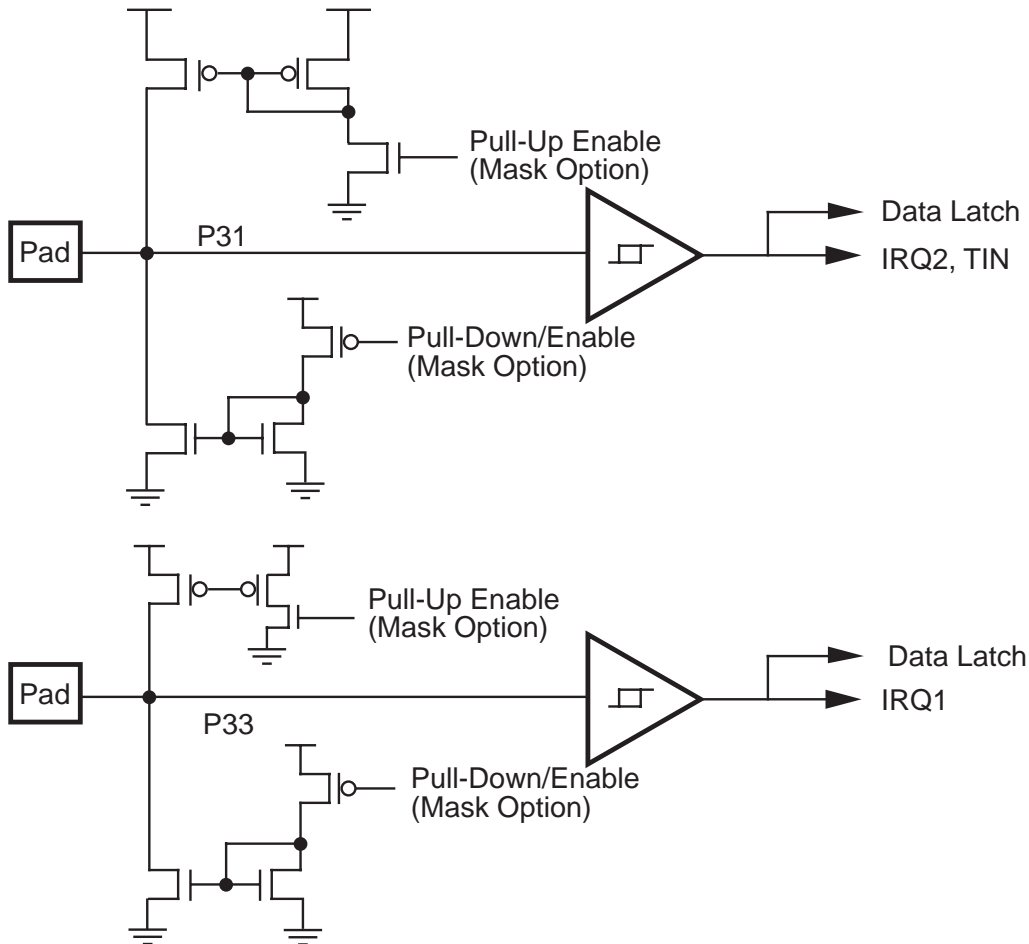

Figure 12. Port 3 P33, P31 Configuration
**Port 3 (P33, P31).** Port 3 is a 2-bit, CMOS-compatible port with two fixed input lines (P33, P31). These two lines can also be used as the interrupt sources IRQ2 and IRQ1. P31 can also be configured as a timer input. Both lines can be configured through ROM mask selection to sink or source current emulating a 100K pull-up or pull-down resistor (Figure 12).